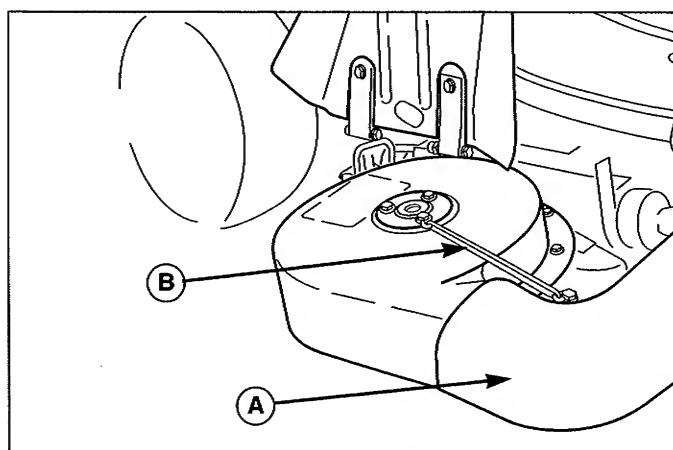

Figure 7. Connect Elbow to Turbo
1. Connect the rigid elbow (A, Figure 7) to the turbo and secure with a rubber strap (B).
3. Disconnect the rigid elbow (A, Figure 7) from the turbo.